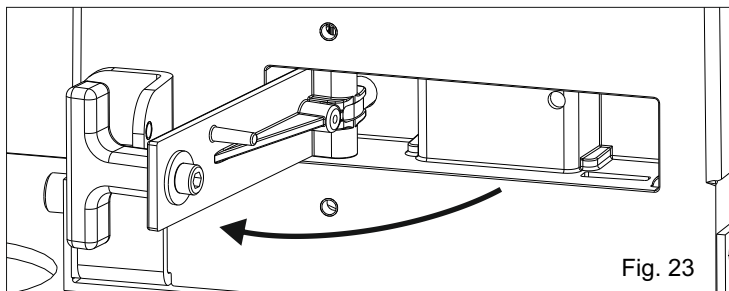

Fig. 23
- Pull the release lever until it stops, about 90° approximately (Fig.23).